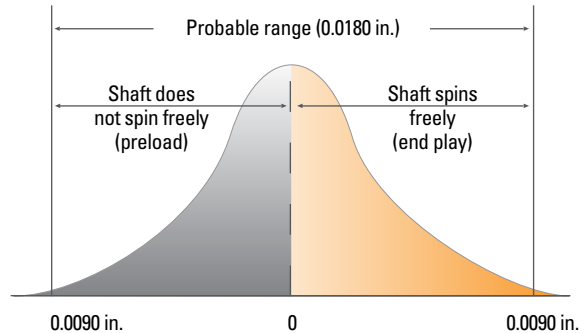

Figure 8. 1st Spin Check
1. Assemble the gearbox without a shim and "spin check"—without the seal in place—to determine if the bearings are set with end play or preload. Under the first spin check, if the shaft spins freely, end play is present (Figure 8) and the bearings are properly set.